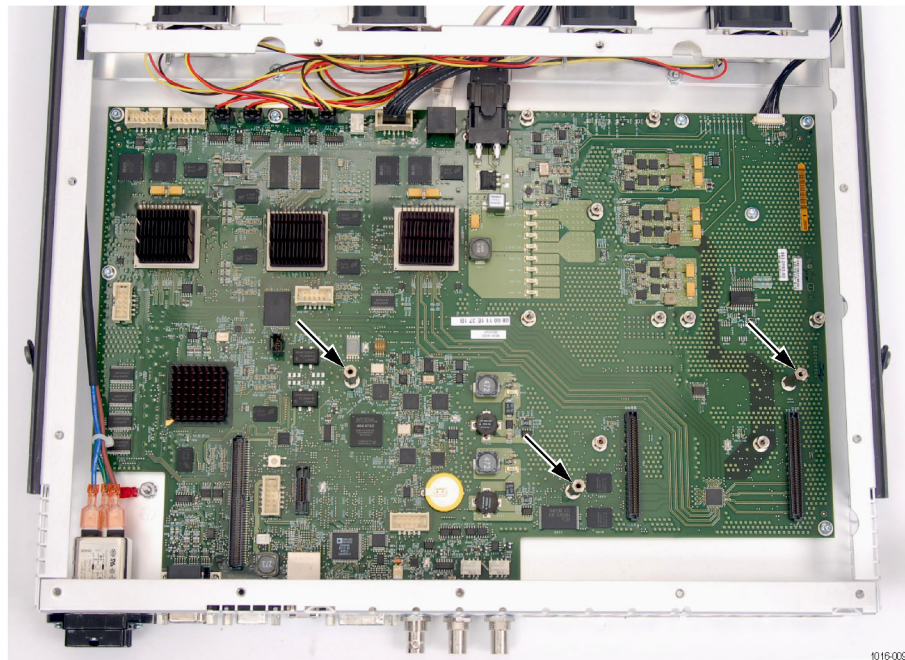

Figure 14: Audio board post locations
4. Replace three main board mounting screws with the three posts from this kit as illustrated. If an audio board was installed previously, you can leave the three existing posts installed. (See Figure 14.)